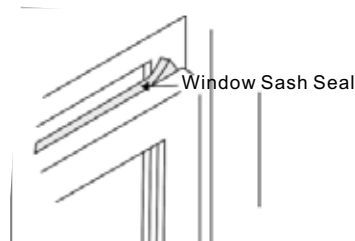

Fig.18
1. Trim sash seal to fit window width. Insert into space between upper and lower sashes (Fig. 18).